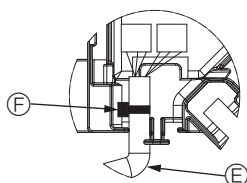

Fig. 10-10
- Place the band securing the panel vane motor wire in the connector box as shown in the diagram. (Fig. 10-10)